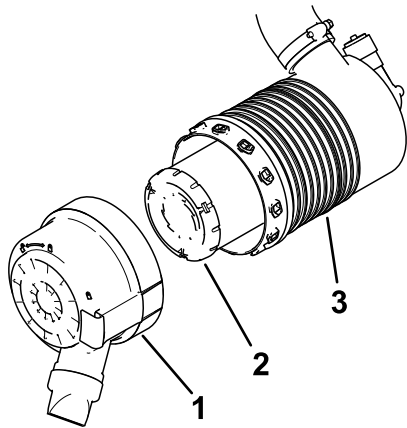

Figure 43
- Install the air-cleaner cover with the dust cap oriented downward as shown in Figure 43 and secure the latches.